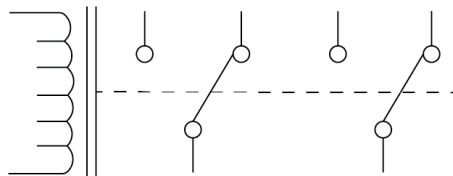

Figure 3.27
6. The symbol in *Figure 3.27* represents _____.